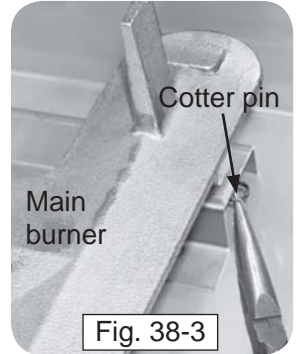

Fig. 38-3
3. Remove the cotter pin from the left or right rear burner anchoring peg by pulling it straight out of the cotter pin hole using fingers or needle-nose pliers (Fig. 38-3).